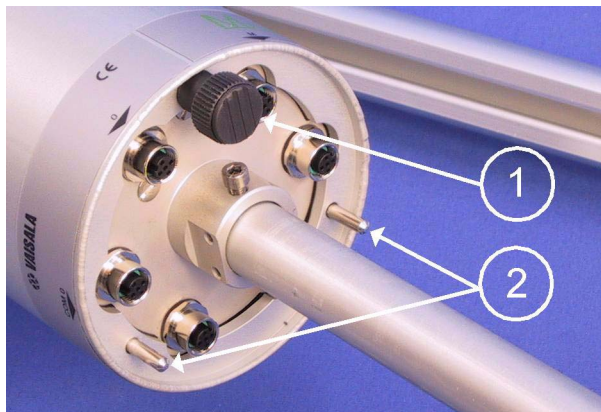

Figure 38 Tube Securing Hand Screw
1. Loosen the hand screw (number 1 in Figure 38 on page 59) beneath the tube. Slide the tube down to expose the logger.